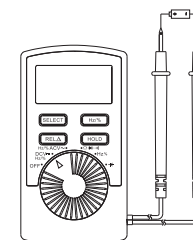

Figure 2
1. Measuring DC Voltage(See Figure 2)